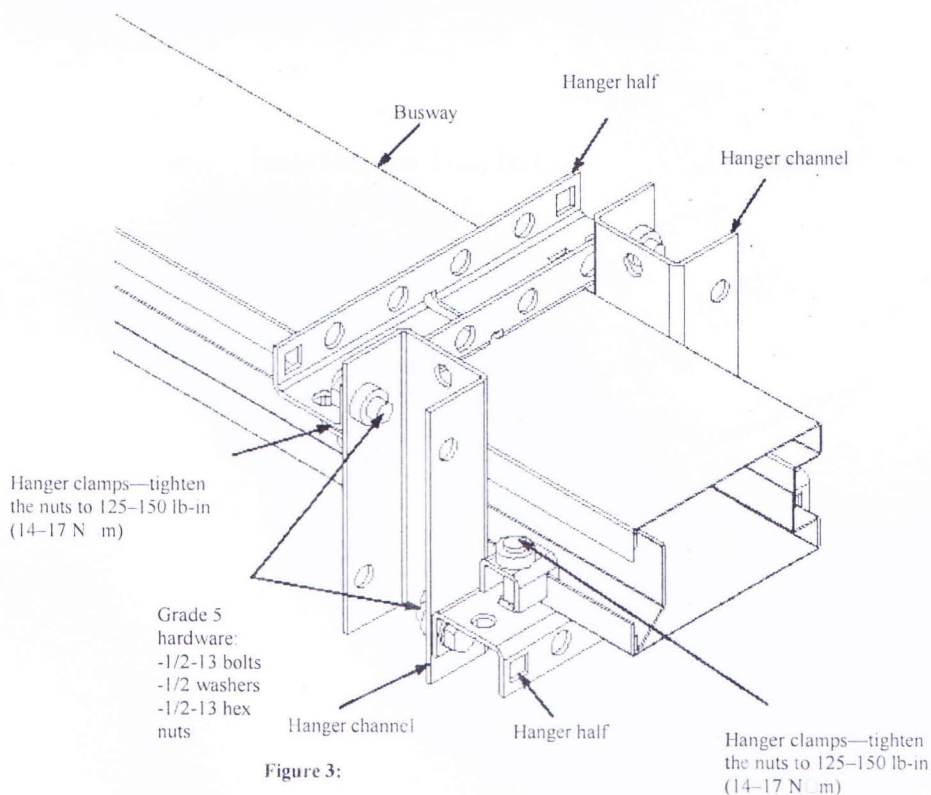

Figure 3:
4. Place the second hanger half underneath the busway on the other side of the hanger channels and secure it to the hanger channels with the supplied 1/2 in. Grade 5 fastening hardware as shown in Figure 3.